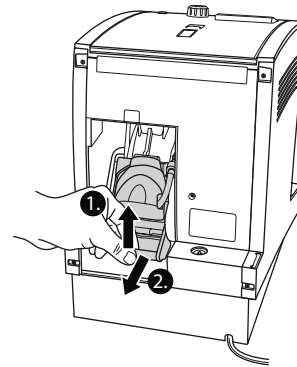

Fig. 13: Pulling out the brewing unit
5. Pull the red lever of the brewing unit upwards and pull the brewing unit carefully downwards at an angle out of the machine (Fig. 13).